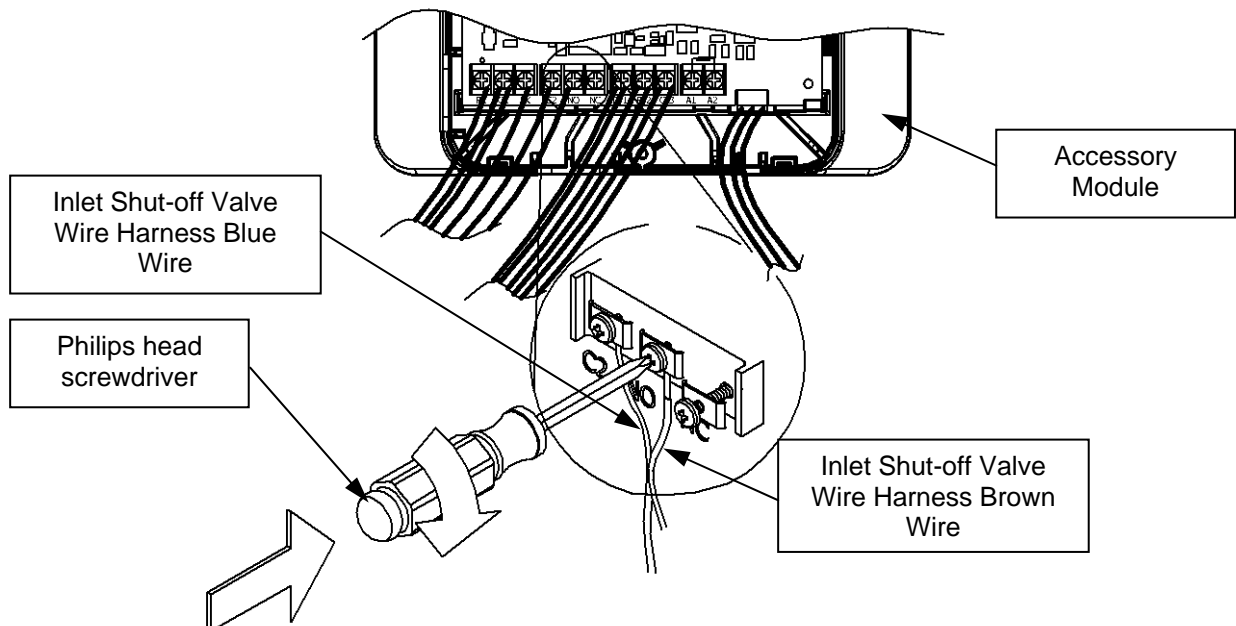

Figure 79
Step 12: Tighten the screw labeled "NO." This is shown in Figure 79.